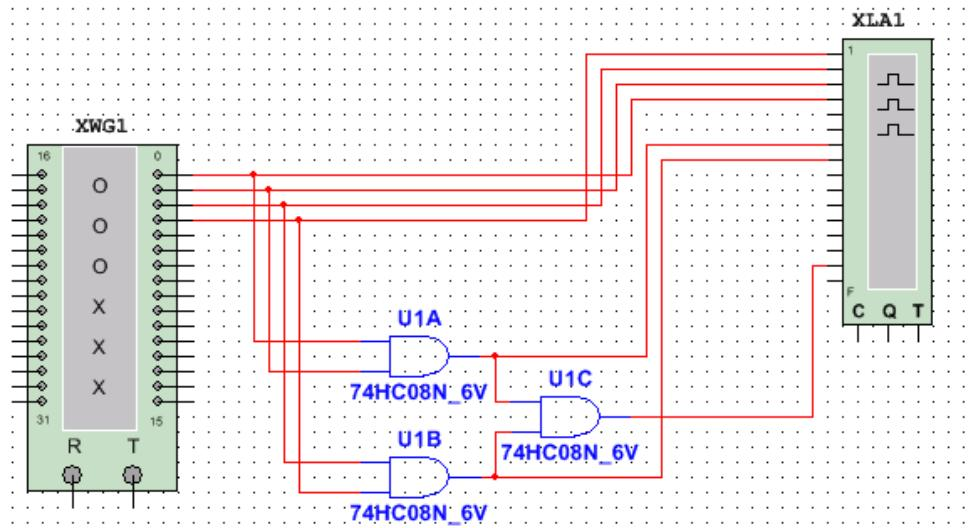

Figure 8. Wiring 2.
- Add AND gates into the circuit, like Figure 8. The combinational logic is $Y = ABCD$.